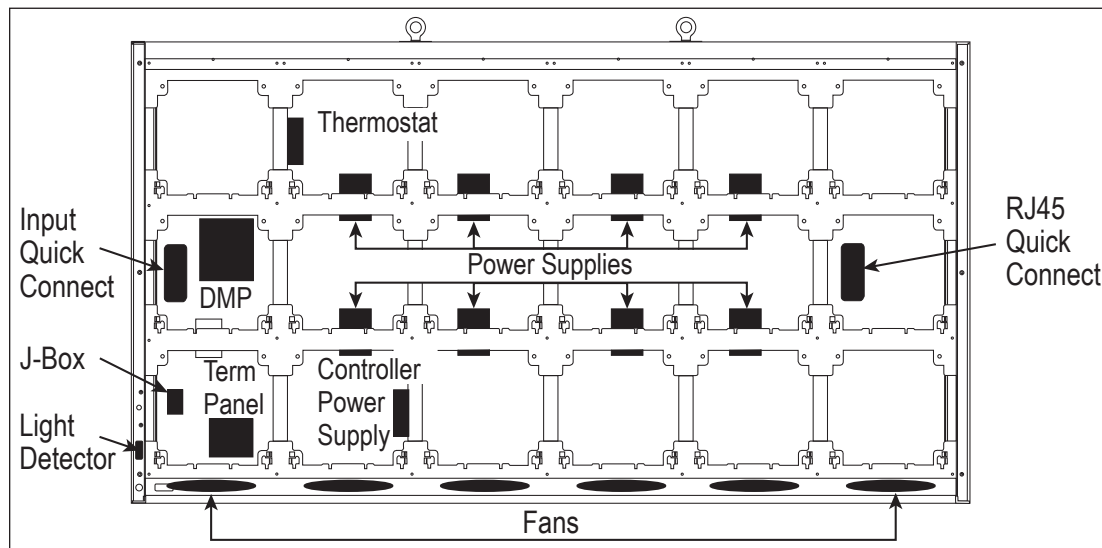
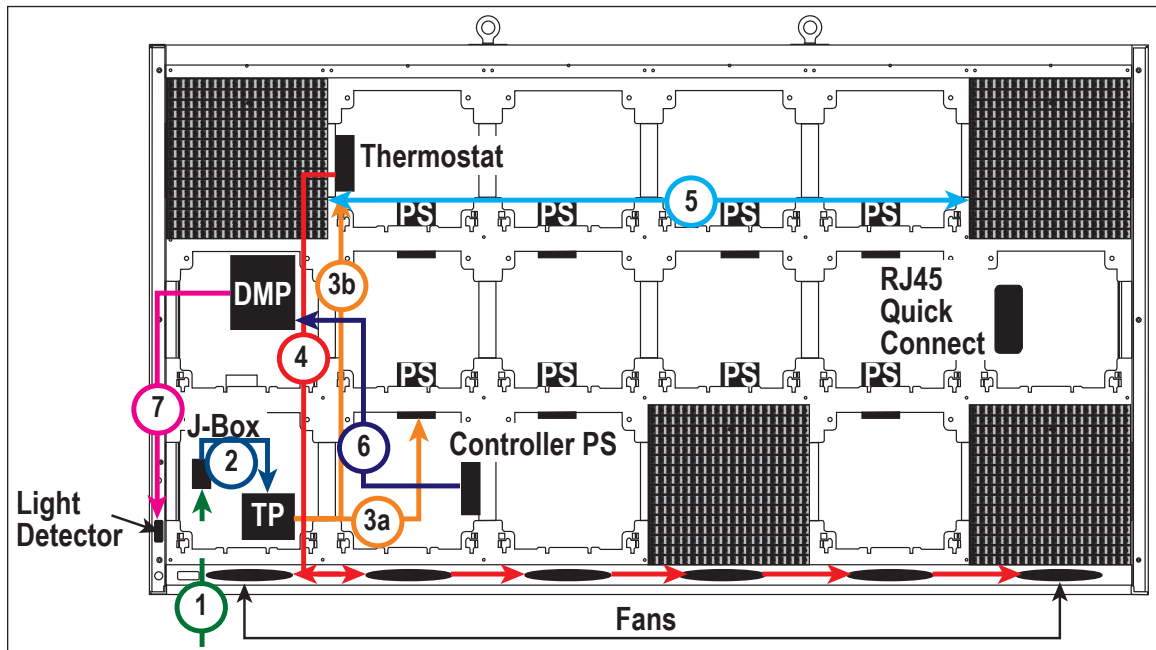

Figure 14: Component Locations
Figure 18: Power Routing
This section explains the steps necessary to maintain Galaxy® GT6 displays, which are front accessible only. Remove modules on the front of the display to gain access to internal components. **Figure 14** and **Figure 18** show internal component locations.
2. Remove the bottom two modules from the second column on the left side of the display with a $\frac{1}{8}$ " hex head wrench. A component layout is shown in **Figure 14**.
Figure 18 shows how power is routed through the display.